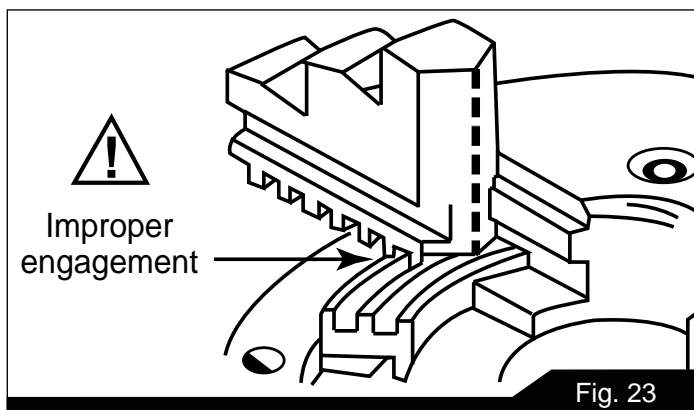

Fig. 23
- Jaw teeth and scroll must be fully engaged, to prevent the jaws from breaking and being thrown from chuck (see Figure 23).